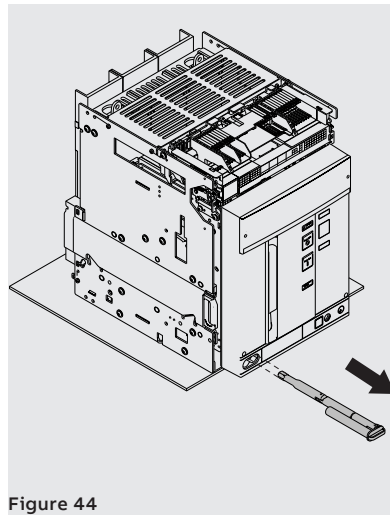

Figure 44
8. Extract the disconnection crank from its housing See Figure 44.